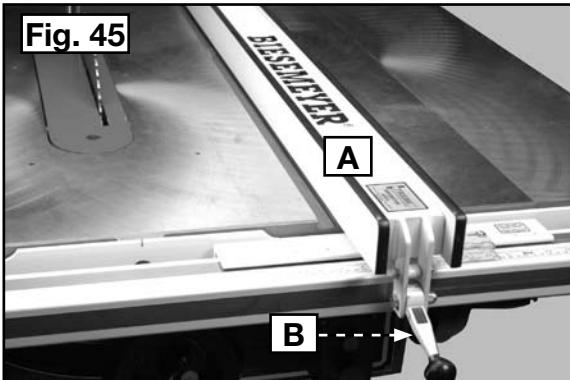
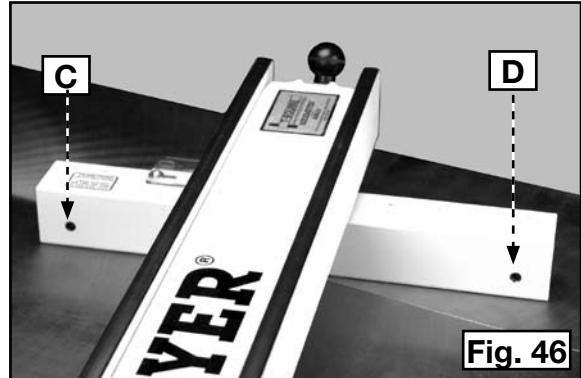

Fig. 45
Fig. 46
Move the fence (A) Fig. 45 until the bottom edge is aligned with the edge of one of the miter gauge slots and lock it in place with the lock clamp (B). If the fence is not parallel to the slot, raise the lock clamp, and lift the fence off of the guide tube. Use a 3/16" hex wrench (not supplied) to tighten or loosen the adjustment screw (either C or D) Fig. 46 that applies.